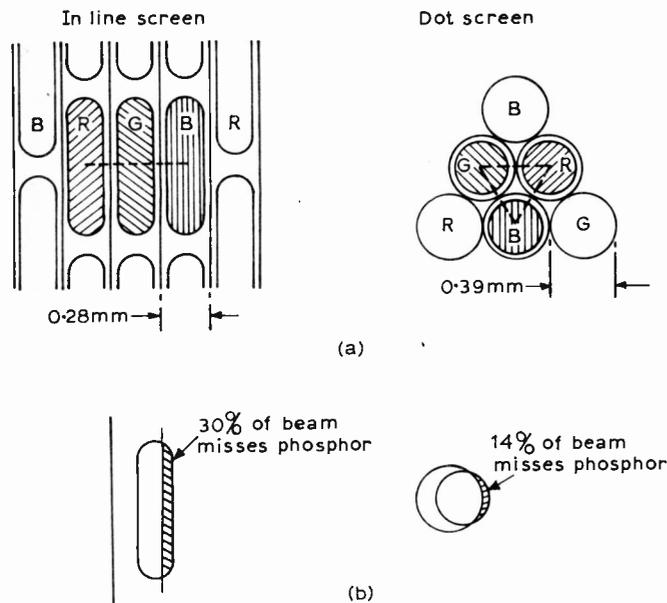

Fig. 5: (a) Beam landings in perfect register. (b) Beam landings with 100µm misregister.
With in-line gun tubes the mask expansion problem is more pronounced because of the reduced horizontal spacing between the phosphor lines. As Fig. 5(a) shows, the typical width of a phosphor stripe in an in-line gun tube is 0.28mm, which compares with a typical dot diameter of
0.39mm in a dot-screen tube. Thus a given misregistration will result in a higher percentage of the beam missing the correct phosphor in an in-line gun tube than in a dot-screen tube. As shown in Fig. 5(b), a misregister of 100µm causes 30% of the beam to miss the correct phosphor in an in-line gun tube, compared to only 14% in the dot-screen tube.